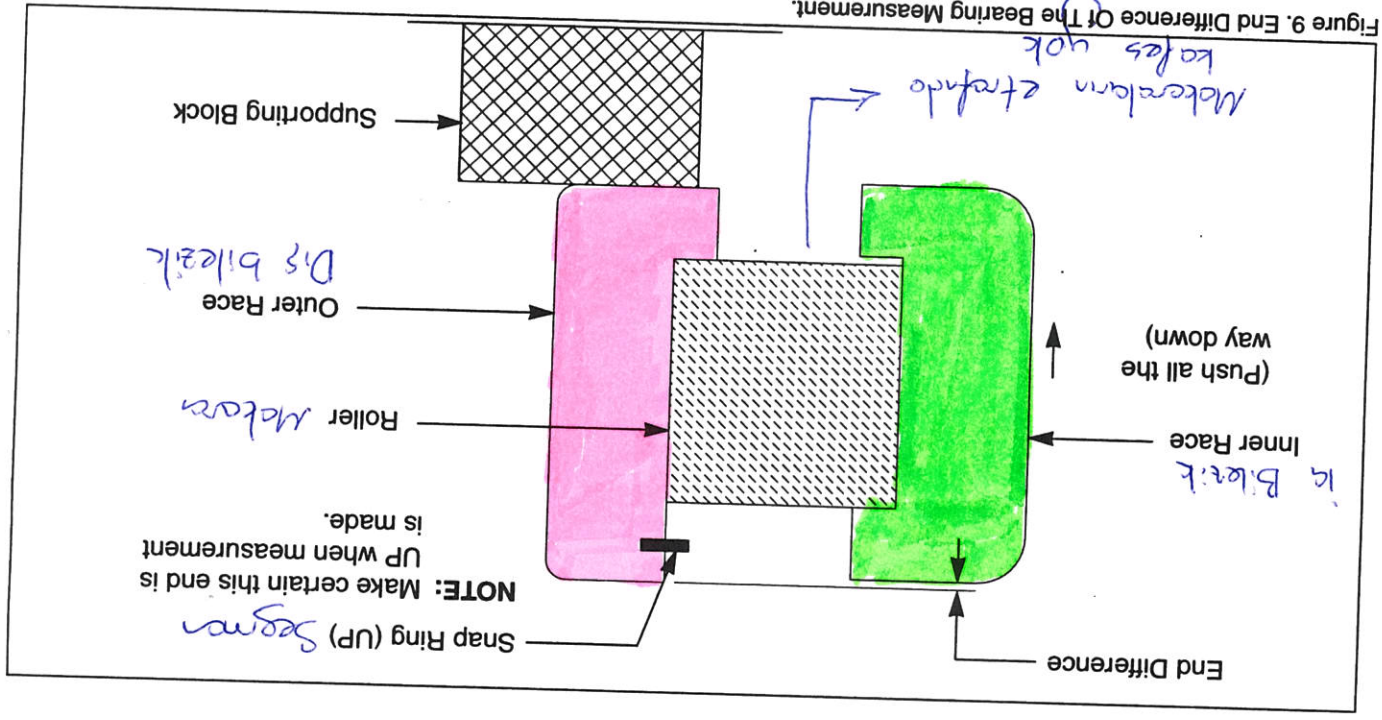

Figure 9. End Difference Of The Bearing Measurement.
- C. Measure the distance from the outer race to the inner race at three (3) different locations — approximately 120° apart. Then take the average value for that bearing. (See Figure 9.)
- E. Add the two (2) "end difference" values (obtained in Steps C and D) together and record this measurement as dimension "D." Then proceed to either Step F or G below, whichever applies.
- F. If dimension "D" is .006" (0.152 mm) or less, make bearing spacer (W) the same length as bearing spacer (X) using dimension "C" as found in Step 12.